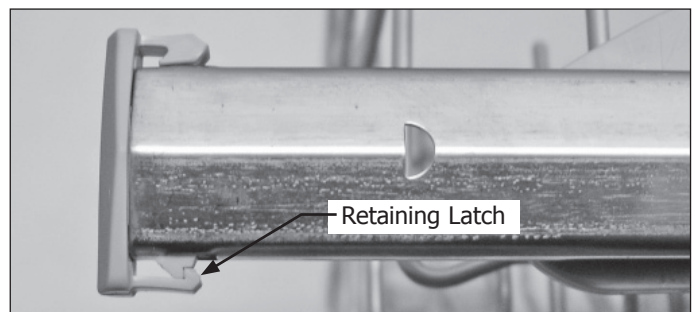

Figure 4-16.
4. Release retaining latch, then pull end cap through rack rail. Repeat on opposite end. (See Figure 4-16)